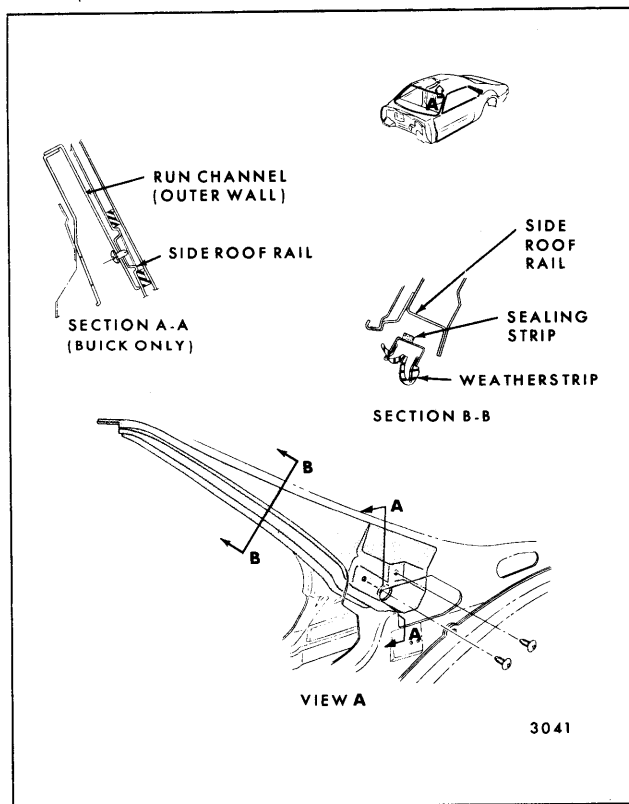

Fig. 6-13—Side Roof Rail Weatherstrip Assembly - "E-87" Styles
- b. Remove screw(s) securing side roof rail weatherstrip (rear section) to side roof rail (See Fig. 6-13), and rear quarter panel.
1. If retainer has been removed, remove and discard saturated polyurethane foam sealing strip from side roof rail weatherstrip retainer and/or side roof rail (See Fig. 6-13).